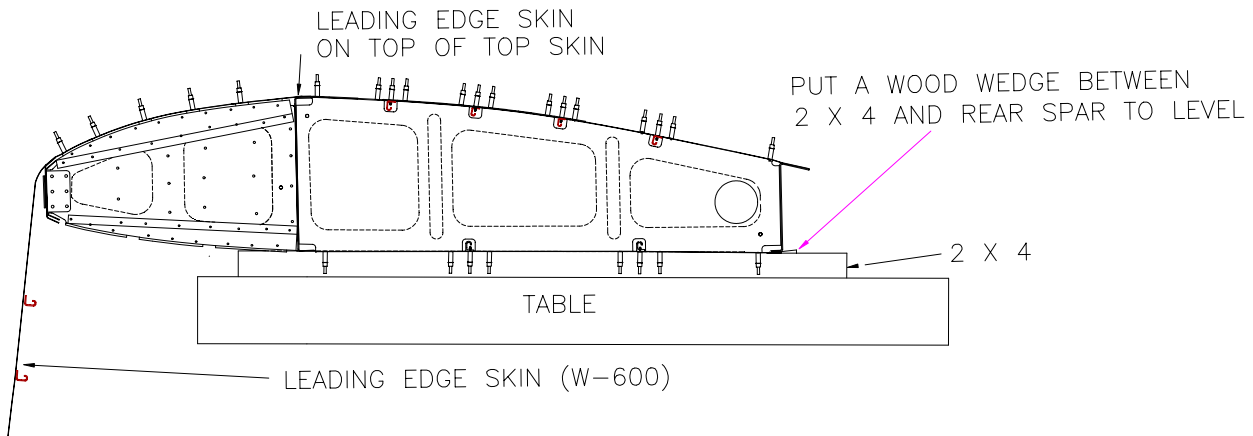

Figure 8.18.1
1) Cleco the Leading Edge Skin to the Leading Edge Ribs. Figure 8.18.1.